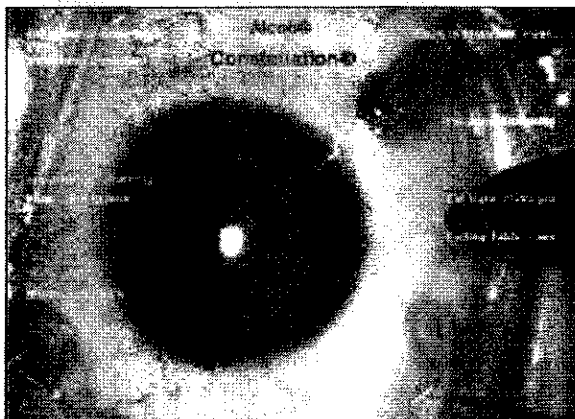
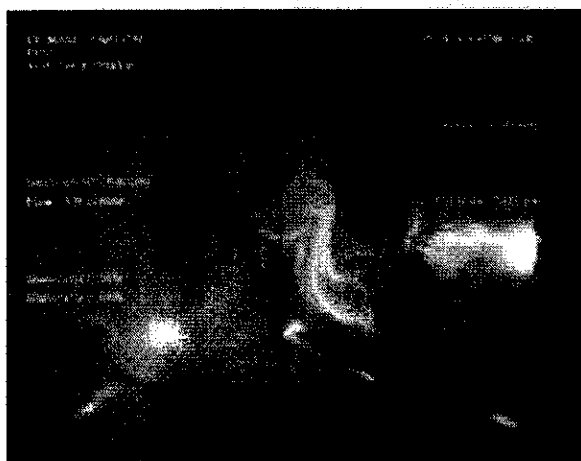

Figure 1. External view of valved cannulas along with chandelier light insertion.
Figure 2. View of the core mode setting in case of a giant retinal tear with chandelier light illumination.
Figure 1. Dual pneumatic drive probe provides efficient cutting up to 7500 cpm and is designed for reduced pulsatile traction without fluidic compromise. The 7500 cpm ULTRAVIT® probes do not compromise flow and maintain efficient vitreous aspiration compared to 5000 cpm probes.
for 7500 cpm have been widened (Figure 1), allowing more flexibility and options to use the probe as a multifunctional tool. Studies have shown the relationship between faster cutting, smaller bites, and less traction,^{1,2} and many surgeons prefer to use the probe at the fastest available speed. When I am using 7500 cpm, I complete core vitrectomy at this speed and then switch to
Figure 2. At maximum cut rate, 7500 cpm probes do not compromise flow and maintain efficient vitreous removal. Vitreous flow comparison for 23-gauge probes (A) and 25-gauge probes (B).
shave mode for the rest of peripheral clean up, making the procedure very efficient. The flow rates are basically the same for 5000 and 7500 cpm, so the efficiency of vitreous removal (Figure 2) is not degraded. This capability, I believe, will bring about a paradigm shift in the way that surgeons have interacted with this new technology since its inception.
For this case of giant retinal tear, 23-gauge valved cannulas are inserted along with a 25-gauge chandelier light source (Figure 1). The cut rate on the 23-gauge ULTRAVIT® cutter is at 7500 cpm at the core mode of duty cycle, which means that the port open time is longer is useful for clearing up the core vitreous (Figure 2). After clearing the core vitreous, the duty cycle is changed to shave mode, which means that the port open time of the cutter is relatively shorter, allowing the ability to work close to the retina, especially mobile retina. Very low turbulence is noted while using the small-gauge cutter. The chandelier lighting enhances the visualization of the vitreous base and allows the surgeon to indent the periphery and shave the vitreous comfortably (Figure 3). Once the vitreous is removed, perfluorocarbon heavy liquid is injected to invert the flap of the giant retinal tear and flatten the retina. Endolaser is carried out posterior to the edges of the giant retinal tear. After this air-fluid exchange is carried out, the edges of the tear are kept dry by aspirating the fluid. A vent is placed